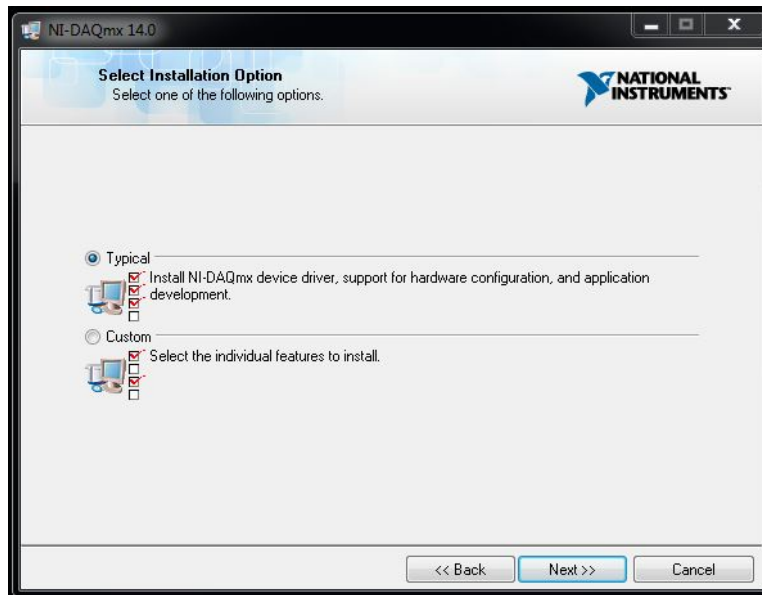

Figure 4-4: NI-DAQ™mx Installation – Step 4
4. On the next dialog window, that appears, choose *Typical Installation* (See: Figure 4-4).